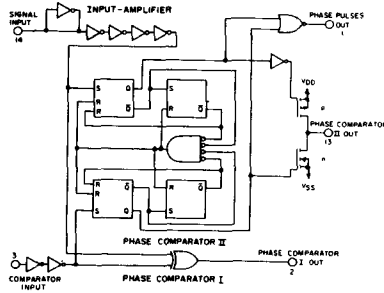
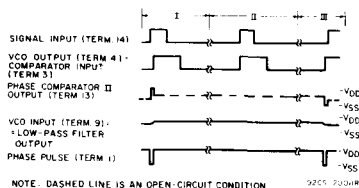
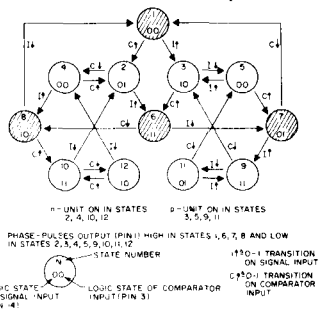

Fig. 3—Schematic of COS/MOS PLL phase-comparator section.
Fig. 6—Typical waveforms for COS/MOS phase-locked loop employing phase-comparator II in locked condition.
Fig. 7—State diagram of phase-comparator II.
Most PLL systems utilize a balanced mixer composed of well-controlled analog amplifiers for the phase-comparator section. Analog amplifiers with well-controlled gain characteristics cannot easily be realized using COS/MOS technology. Hence, the COS/MOS design shown in Fig. 3 employs digital-type phase comparators. Both phase comparators are driven by a common-input amplifier configuration composed of a bias stage and four inverting-amplifier stages. The phase-comparator signal input (terminal 14) can be direct-coupled provided the signal swing is within COS/MOS logic levels [logic 0 $\leq 30\%$ ($V_{DD}-V_{SS}$), logic 1 $\geq 70\%$ ($V_{DD}-V_{SS}$)]. For smaller input signal swings, the signal must be capacitively coupled to the self-biasing amplifier at the signal input to insure an over-driven digital signal into the phase comparators.
Phase-comparator II is an edge-controlled digital memory network. It consists of four flip-flop stages, control gating, and a three-state output circuit comprising p and n drivers having a common output node as shown in Fig. 3. When the p-MOS or n-MOS drivers are ON, they pull the output up to V_{DD} or down to V_{SS} , respectively. This type of phase comparator acts only on the positive edges of the signal- and comparator-input signals. The duty cycles of the signal and comparator inputs are not important since positive transitions control the PLL system utilizing this type of comparator. If the signal-input frequency is higher than the comparator-input frequency, the p-MOS output driver is maintained ON continuously. If the signal-input frequency is lower than the comparator-input frequency, the n-MOS output driver is maintained ON continuously. If the signal- and comparator-input frequencies are the same, but the signal input lags the comparator input in phase, the n-MOS output driver is maintained ON for a time corresponding to the phase difference. If the signal- and comparator-input frequencies are the same, but the signal input leads the comparator input in phase, the p-MOS output driver is maintained ON for time corresponding to the phase difference. Subsequently, the capacitor voltage of the low-pass filter connected to this type of phase comparator is adjusted until the signal and comparator input are equal in both phase and frequency. At this stable operating point, both p- and n-MOS output drivers remain OFF, and thus the phase-comparator output becomes an open circuit and holds the voltage on the capacitor of the low-pass filter constant. Moreover, the signal at the "phase pulses" output is at a high level, and can be used for indicating a locked condition. Thus, for phase-comparator II, no phase difference exists between signal and comparator input over the full VCO frequency range. Moreover, the power dissipation due to the low-pass filter is reduced when this type of phase comparator is used because both the p- and n-MOS output drivers are OFF for most of the signal-input cycle. It should be noted that the PLL lock range for this type of phase comparator is equal to the capture range, independent of the low-pass filter. With no signal present at the signal input, the VCO is adjusted to its lowest frequency for phase-comparator II. Fig. 6 shows typical waveforms for a COS/MOS PLL employing phase-comparator II in a locked condition.
Fig. 7 shows the state diagram for phase-comparator II; each circle represents a state of the comparator. The number at the top inside each circle represents the state of the comparator, while the logic state of the signal and comparator inputs, represented by a 0 or a 1, are given by the left and right numbers, respectively, at the bottom of each circle. The transitions from one state to another result from either a logic change on the signal input (I) or the comparator input (C). A positive transition and a negative transition are shown by an arrow pointing up or down, respectively. The state diagram assumes that only one transition on either the signal input or the comparator input occurs at any instant. States 3, 5, 9, and 11 represent the condition at the output of phase-comparator II when the p-MOS driver is ON, while states 2, 4, 10, and 12 determine the condition when the n-MOS driver is ON. States 1, 6, 7, and 8 represent the condition when the output of phase-comparator II is in its high impedance state; i.e., both p- and n-devices are OFF, and the phase-pulses output (terminal 1) is high. The condition at the phase-pulses output for all other states is low.
As an example of how one may use the state diagram shown in Fig. 7, consider the operation of phase-comparator II in the locked condition shown in Fig. 6. The waveforms shown in Fig. 6 are broken up into three sections: section I corresponds to the condition in which the signal input leads the comparator input in phase, while section II corresponds to a finite phase difference. Section III depicts the condition when the comparator input leads the signal input in phase. These three sections all correspond to a locked condition for the COS/MOS PLL; i.e., both signal- and comparator-input signals are of the same frequency but differ slightly in phase. Assume that both the signal inputs begin in the 0 state, and that phase-comparator II is initially in its high-impedance output condition (state 1), as shown in Figs. 7 and 6, respectively. The signal input makes a positive transition